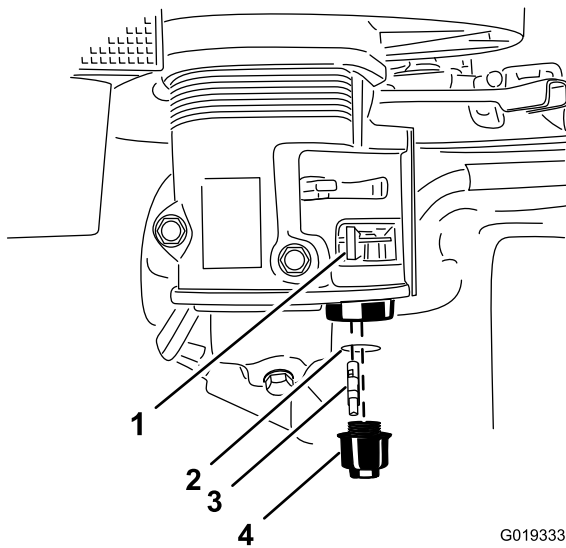

Figure 43
- Move the lever of the fuel valve to the Off position, all the way to the left (Figure 43).
- Unscrew the sediment cup. Remove the fuel filter and O-ring (Figure 43).
- Install the fuel filter in the bottom of the carburetor (Figure 43).